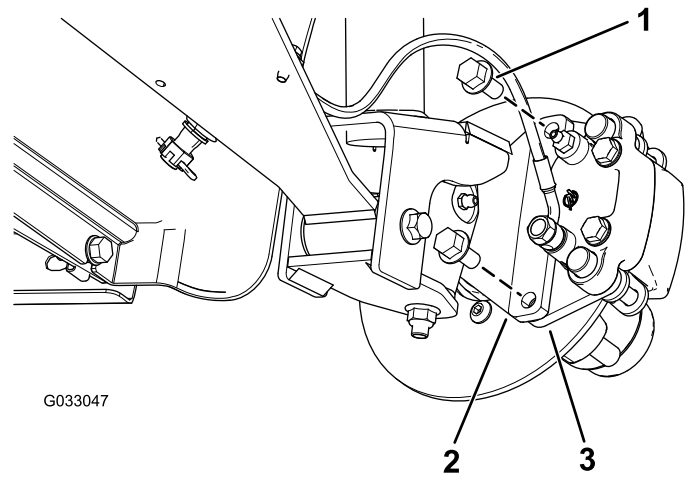
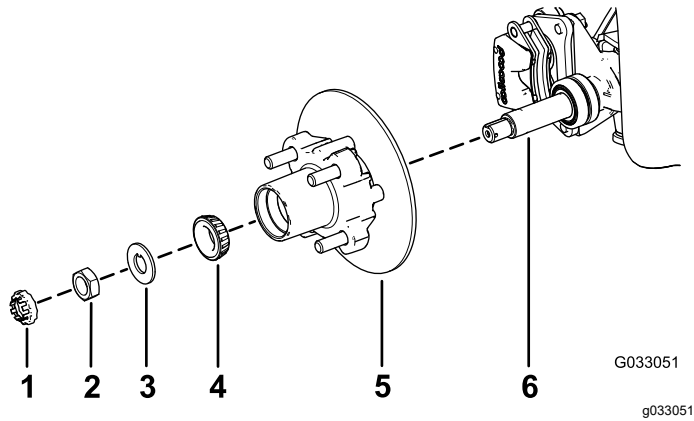

Figure 25
Figure 29
3. Remove the flange-head bolts (3/8 x 3/4 inch) that secure the bracket for the brake assembly to the spindle and separate the brake from the spindle (Figure 25).
1. Apply a light coat of the specified grease to the spindle (Figure 29).
2. Assemble the hub and rotor onto the spindle with the rotor inboard (Figure 29).
3. Assemble the outboard bearing onto the spindle and seat the bearing to the outboard race (Figure 29).
4. Assemble the tab washer onto the spindle (Figure 29).
5. Thread the spindle nut onto the spindle and tighten the nut to 15 N·m (11 ft-lb), while rotating the hub to seat the bearing (Figure 29).
2. Align the brake pads to either side of the rotor (Figure 25) and the holes in the caliper bracket with the holes in the brake mount of the spindle frame (Figure 29).
3. Secure the caliper bracket to the spindle frame (Figure 25) using the 2 flange-head bolts (3/8 x 3/4 inch).